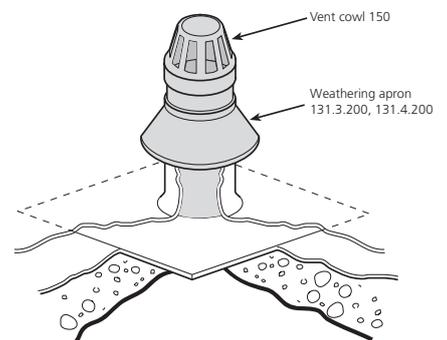

Fig.22b Steps 3/4
Step 3 – Slide 131 Weathering Apron over stack and solvent-weld in position (Fig.22b)